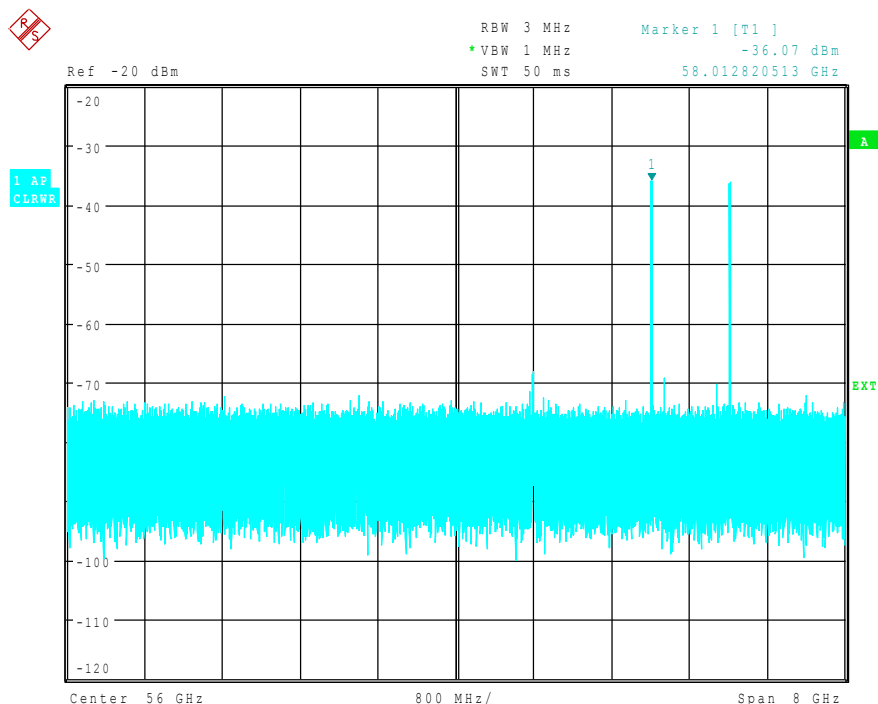

Fig. 4-40 Spectrum at the multiplier output recorded with an external mixer
- Reduce video bandwidth with [ **SWEEP COUPLING** : VIDEO BW MANUAL : **1 MHz** ] A correct signal identification using *AUTO ID* is thus possible (see also "Remarks concerning Signal Identification with AUTO ID"). The display shown in Fig. 4-40 is obtained.
The spectrum represented in Fig. 4-40 contains the input signal and also a large number of unwanted mixer products. Two functions are provided by the Spectrum Analyzer to identify real input signals. The implemented methods are described in section “Signal Identification” on page 4.295. The *AUTO ID* function is used in this example.